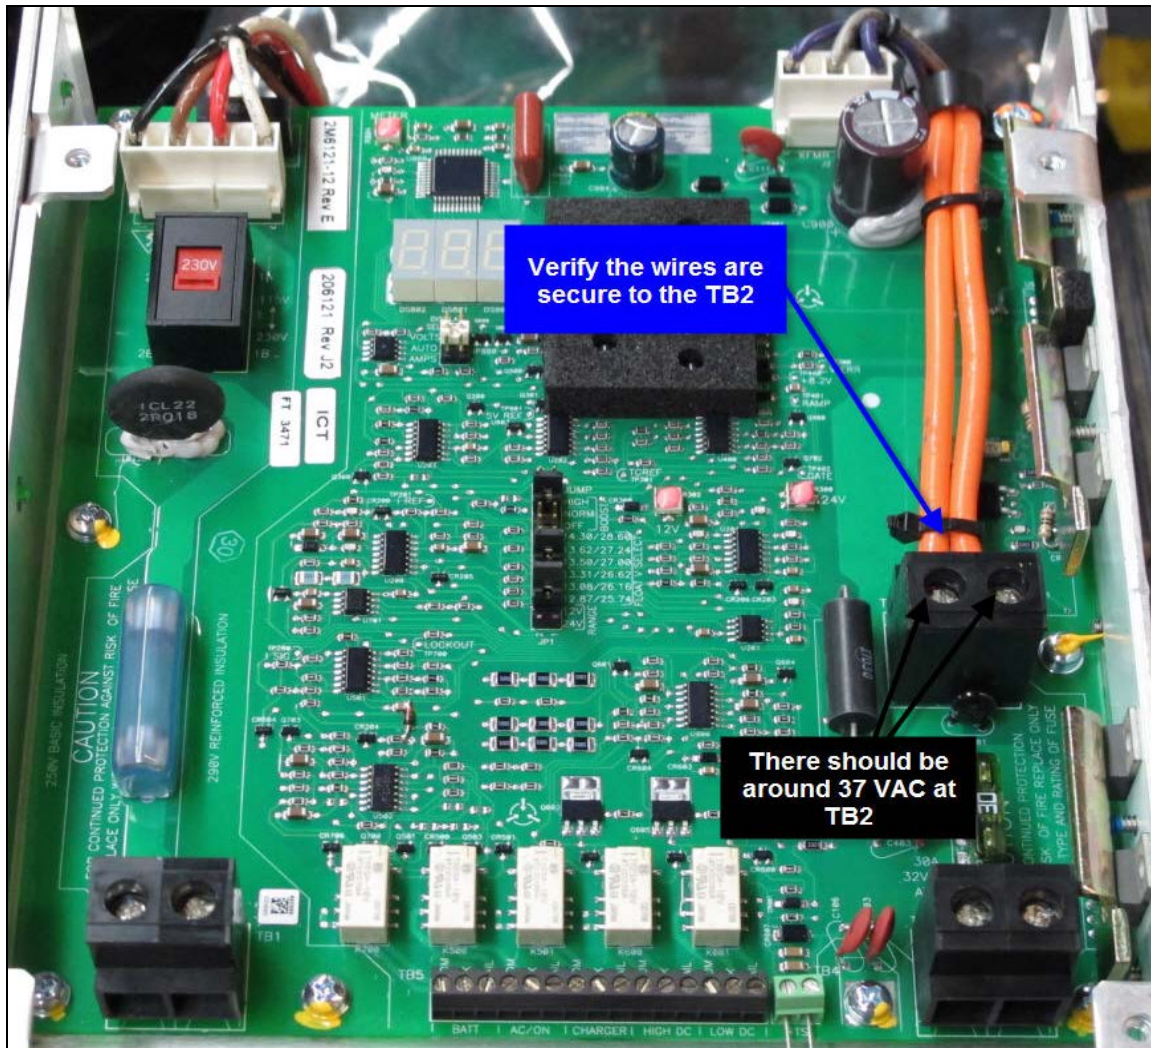

Figure 10
1. Charger Fail Possible Cause 1: AC voltage produced by transformer is not correct (see Figure 10)
2. Charger Fail Possible Cause 2: A loose connection at terminal block TB2 (see Figure 10)